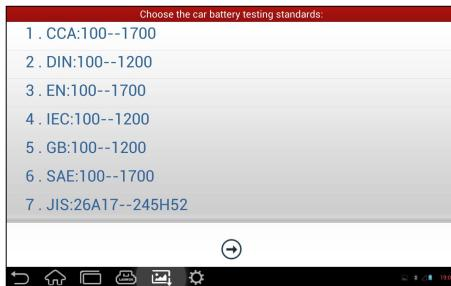

Fig. 7-5
- Follow the on-screen instructions to turn off the headlamp and tap [OK], the system will continue the testing. Tap , it will enter testing standard selection screen. See Fig. 7-5.